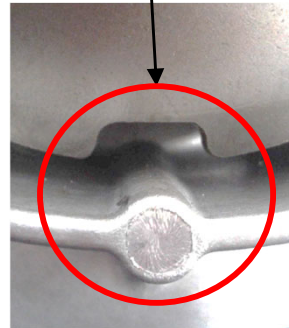

Figure 16
- Align the 2 notches on the sheaves ① and ⑬ and also the square shape notch or point or part number on the cap ⑭ (depending on cap model) together to make sure the pulley is balanced (see figures 16 - 19).